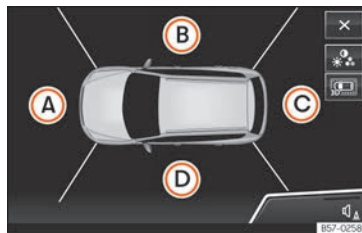

Fig. 295 Viewing the top view system: aerial view.
Function buttons **Fig. 295**:
The aerial view is generated by combining the images from all the cameras  **»» Fig. 295**. The aerial view can be selected by pressing the *vehicle* in the area.
Select the corresponding view by pressing the different areas **»» Fig. 295 (A) to (D)** of the aerial view or the reduced aerial view.
The infotainment system screen displays the aerial view **»» Fig. 295**. If you press the  button when driving at over 15 km/h (9 mph), the image will not be displayed.